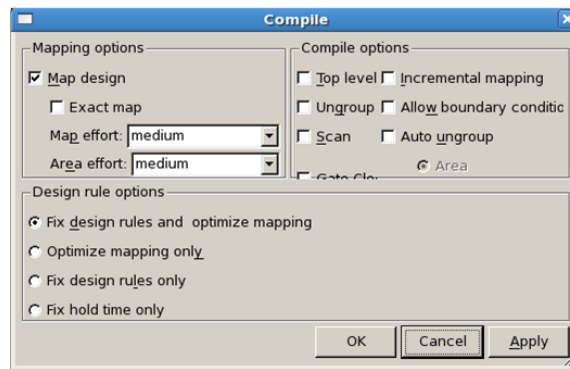

Figure 21: Compile Design
- Uncheck the exact map option (this would leads no logic optimization). See Figure. 21